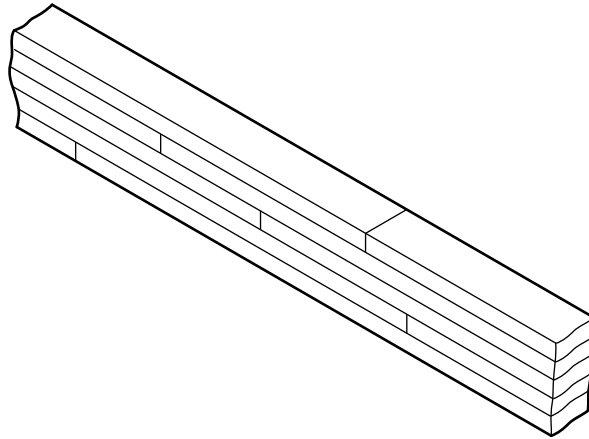

Fig. 9
- (ii) An alternative way of extending beam length is to laminate several pieces of softwood as shown in Fig. 9.